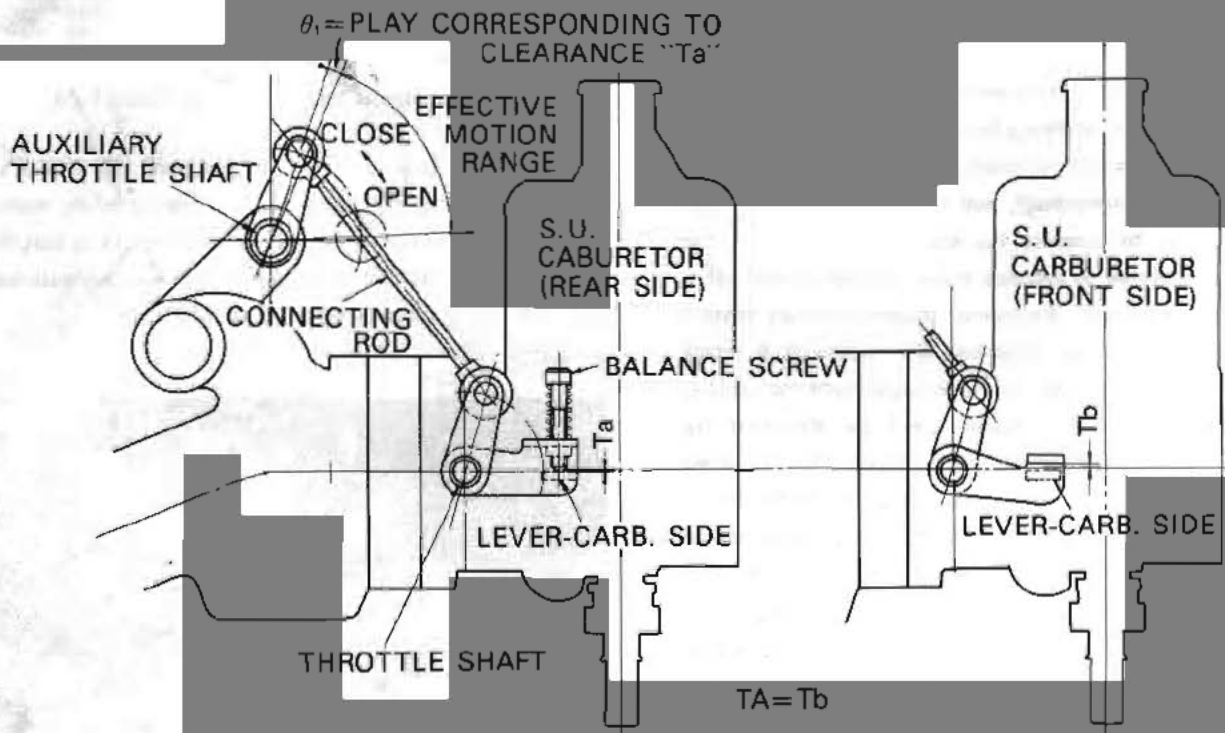

Fig. EC-30 Adjusting idle speed and mixture
c. When the throttle adjusting screw is returned during the above adjustment and engine speed cannot be reduced below 750 rpm, other adjusting screws such as opener adjusting screw ⑬ and balance screw ⑭ must have been tightened excessively or the accelerator linkage must have not been adjusted correctly. Under the normal condition, the auxiliary throttle shaft ⑧ and throttle shaft ⑪ should have a slight play during engine operation under the idling speed. In other words, the auxiliary throttle shaft ⑧ should be provided with a play "Q1" which corresponds to the clearance  $T_a = T_b$  as shown in Figure EC-30.